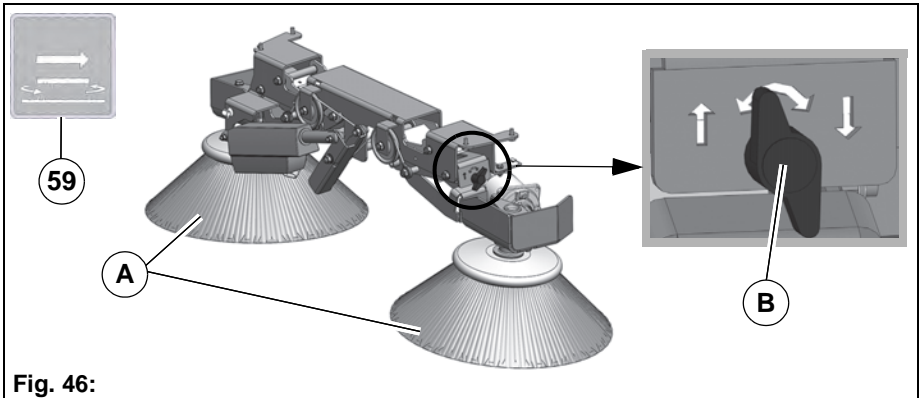

Fig. 46:
The tilt of the side brush **Fig. 46-A** is preset in the factory and cannot be changed.
3. Turn wing nuts **Fig. 46-B** clockwise at both sides until 1/3 of the area of the side brush is touching the floor.